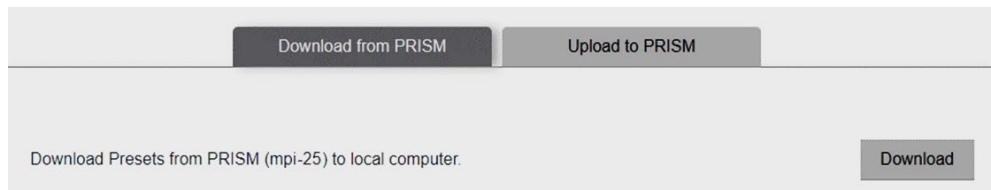

Figure 78: PRISM web presets page with Download from PRISM selected
3. Select **Download from PRISM** and then select **Download**. (See Figure 78.)